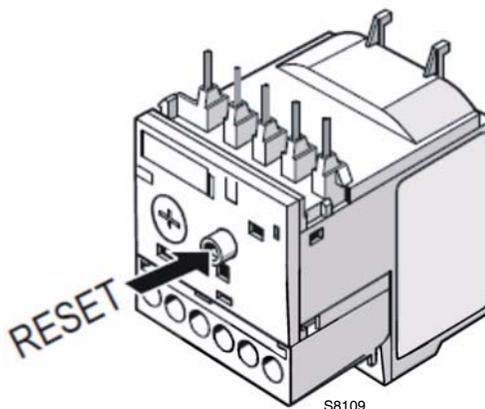

Fig. 31
- To reset, in the case of an intervention of the thermal relay, press the button "RESET" (Fig. 31).